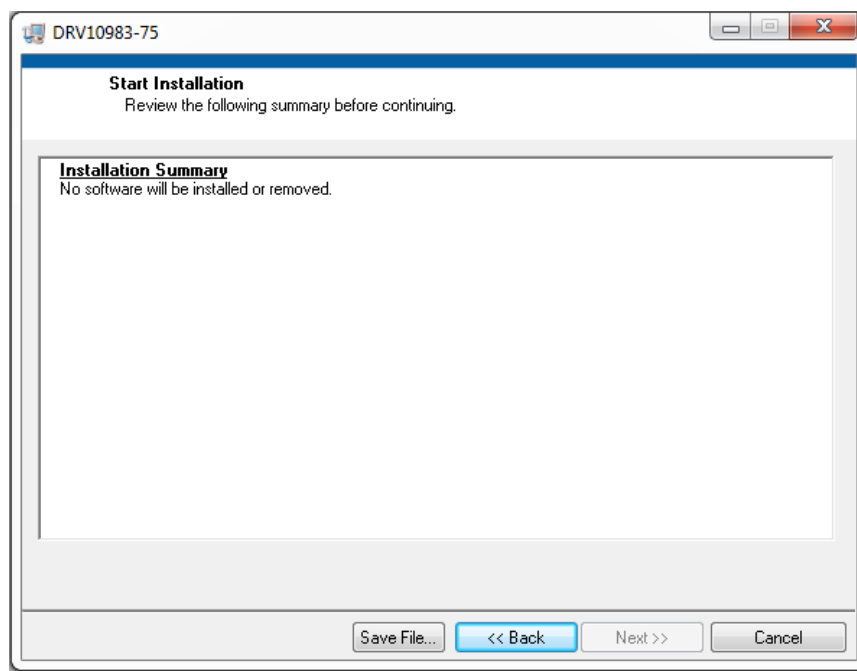

Figure 1-5 Start Installation
4. A screen as shown in Fig.1-5 will appear. Click **Next»** to begin installation.